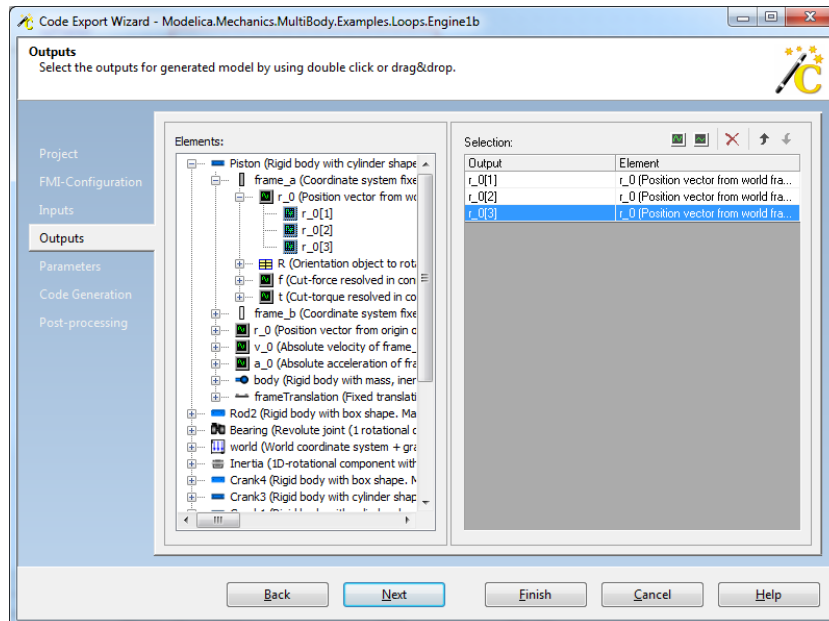

Figure 3: Outputs page of Code Export Wizard.
9. The output property window looks similar to the input property window and allows you to define outputs of the exported FMU. Choose the element “Piston”, then “frame\_a”, “r\_0” and double-click the variables “r\_0[1]”, “r\_0[2]”, and “r\_0[3]” as shown in Figure 3. Click “Next”.